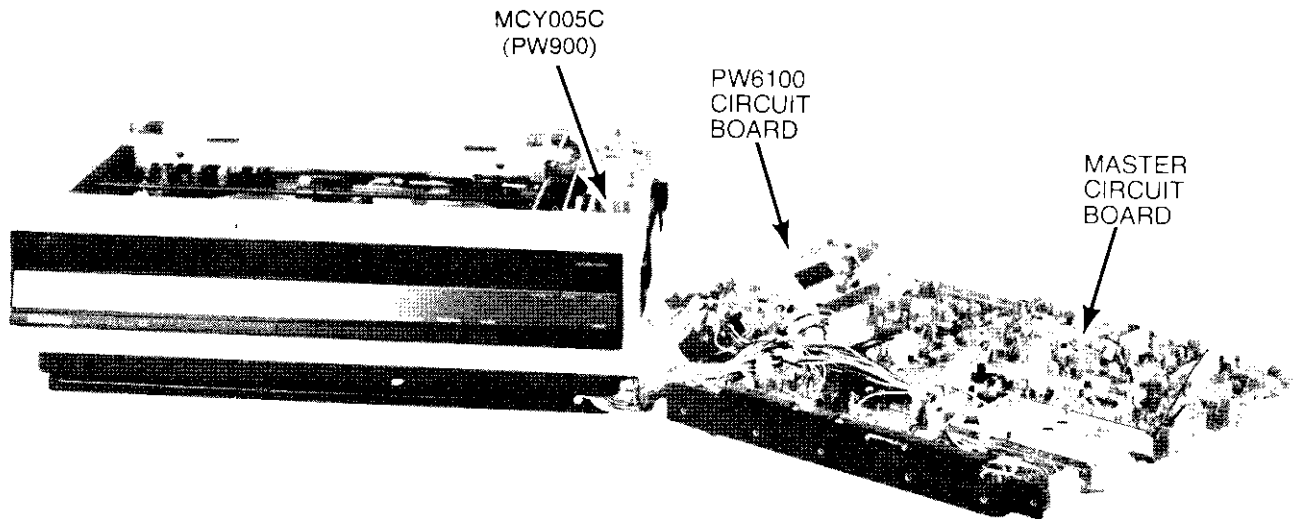

Fig. 12—Service Position
6. Place instrument and circuit board in upright position (Fig. 12), reinstall receiver spindle assembly and if front panel was removed reconnect front panel flex cable to flex cable connector. Instrument is now in operational service position.